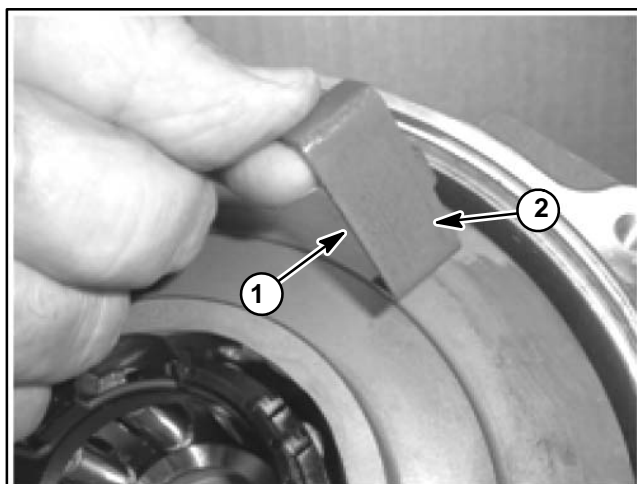

Figure 13
7. Remove the thrust bearing from the cover plate and inspect for wear (Fig. 13). Replace the thrust bearing if the red coating is worn completely off the bearing surface. The thrust bearing is used to set the backlash of the ring gear and pinion.